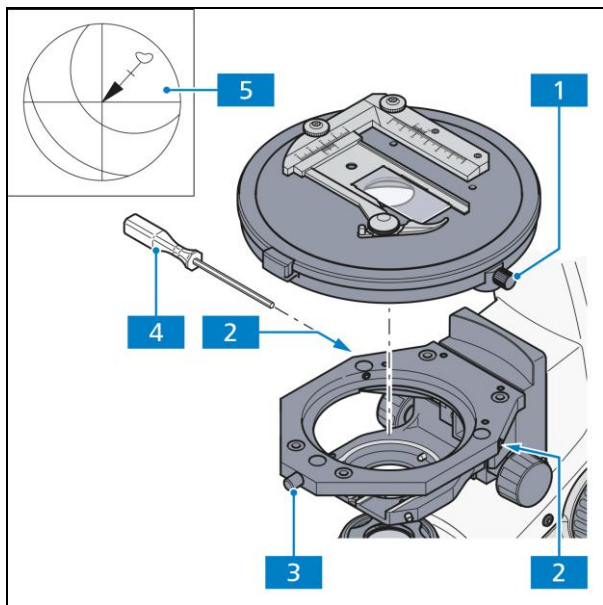

Fig. 3-11 Centering the Pol rotary stage
All stages are factory-precentered, i.e. while rotating the stage the specimen feature set to the center will remain in the center. If the specimen feature moves out of the center of the field of view (Fig. 3-11/5) while the stage is being rotated, the stage should be re-centered by following this procedure:
- Loosen the stage clamping screw (Fig. 3-11/1) and
the screw cap on the stage carrier (Fig. 3-11/3).
- Rotate the stage to determine the position of maximum offset of the specimen feature (Fig. 3-11/5, origin of arrow) from the center of the eyepiece reticle.
- Reset the two centering screws on the stage carrier (Fig. 3-11/2) using an Allen wrench (AF 1.5) (Fig. 3-11/4) to move the specimen detail by half an arrow length in the direction of the crossline center. Check whether the specimen detail moves when the stage is rotated again; repeat the procedure, if required.
- When centering is finished, re-tighten the screw cap (Fig. 3-11/3).